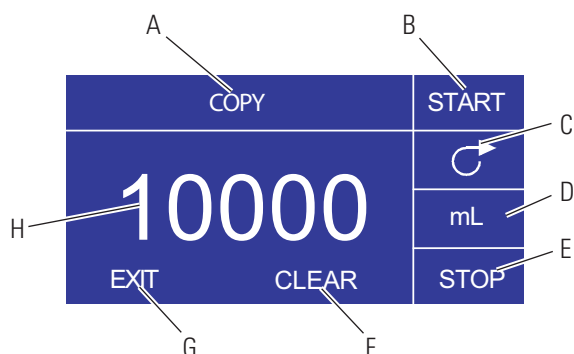

Figure 3-8. COPY Setting Screen
- D. **Copy Amount Screen:** See *Copy Setting Screen*, Figure 3-8.